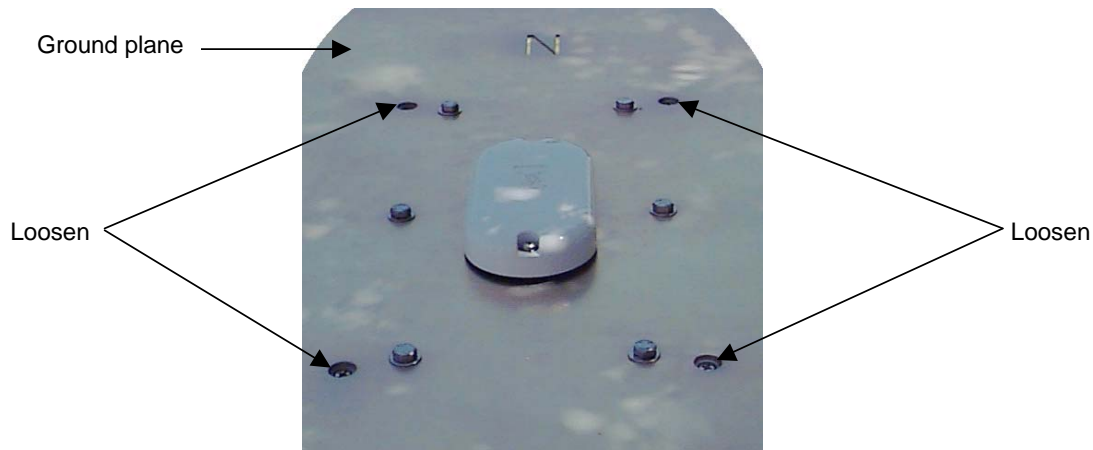

Figure 3. Opening the sensor enclosure
- 9 Open the sensor enclosure by loosening the four countersunk bolts shown in **Figure 3**. **Do not remove** the six bolts holding the ground plane to the enclosure lid.